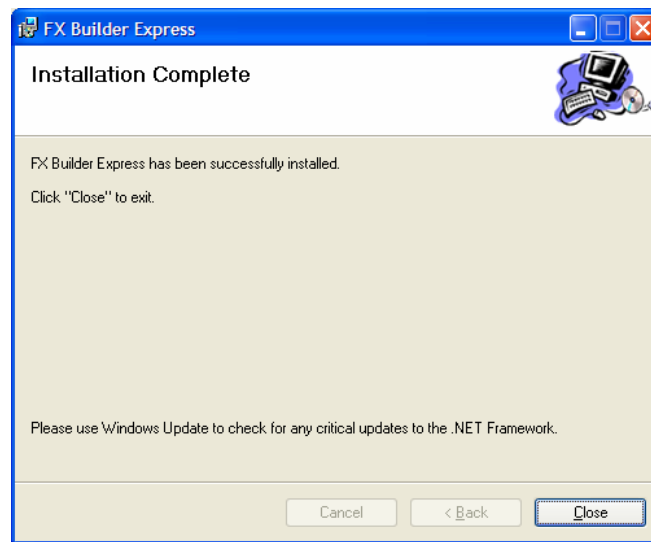

**Figure 6: Confirm Installation**
6. Click Next. The Confirm Installation window appears (Figure 6).